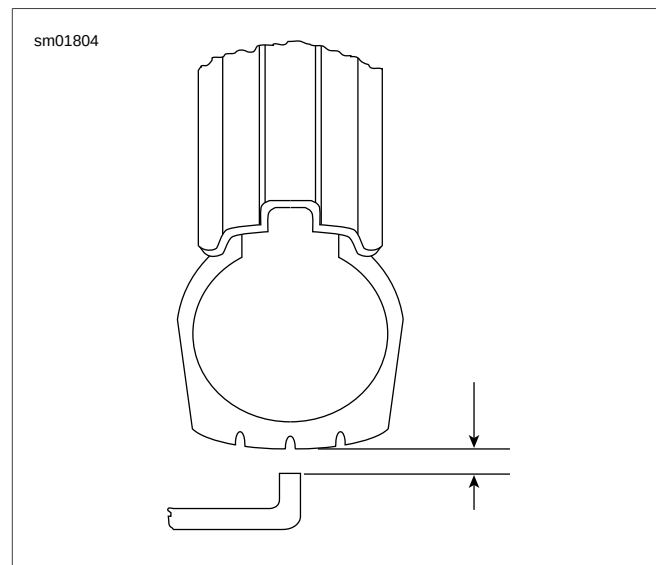

Figure 2-36. Checking Tire Radial Runout
2. See Figure 2-36. Turn the wheel on the axle and measure tire radial runout at the tread centerline.